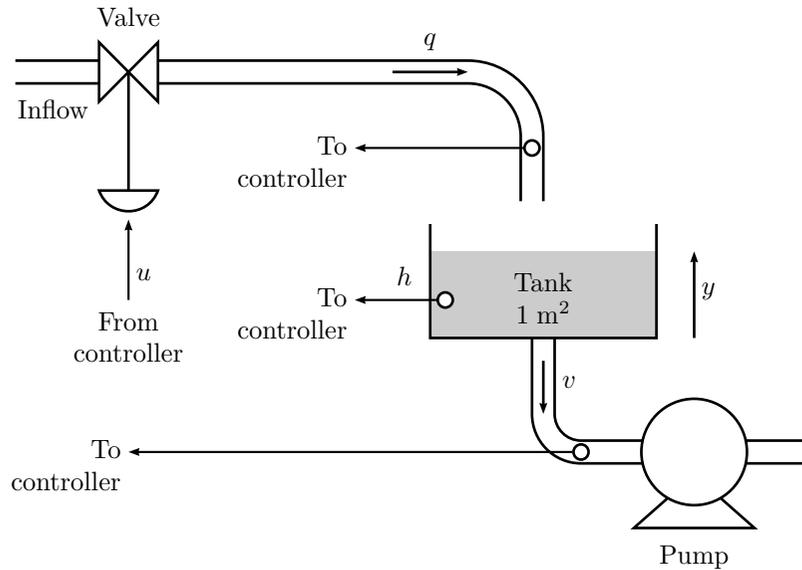

Figure 9.8a
9.8 In Figure 9.8a a level control system for a tank is shown. The objective is to keep the level at a desired value. Let u , h , q , and v denote small variations around the desired working point. The inflow, q , to the tank is determined by the valve, u , calculated by the controller. The outflow v is determined by the pump and deviations from zero is considered as process noise. The valve has some dynamics, which is modeled with the transfer function